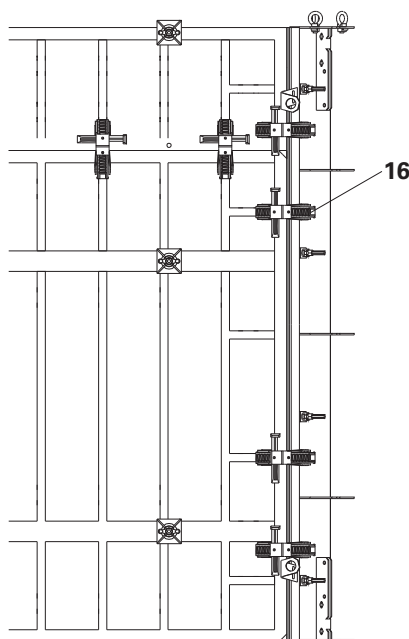

Fig. B2.02
3. Connect both elements by means of the Alignment Coupler BFD (16). The number of Alignment Couplers BFD corresponds to the number of Tie Yokes. (Fig. B2.02)